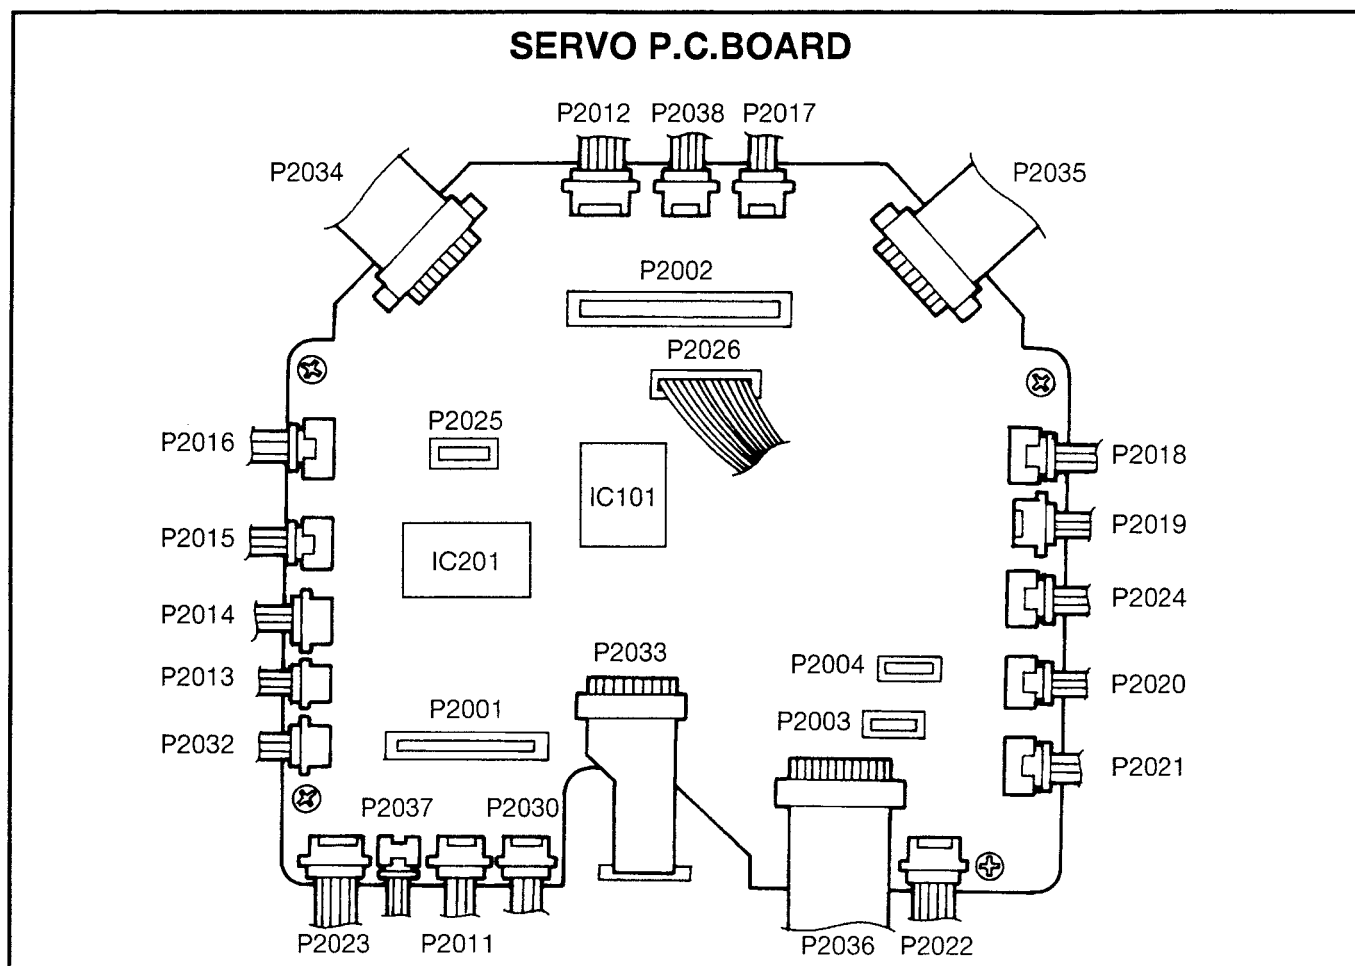
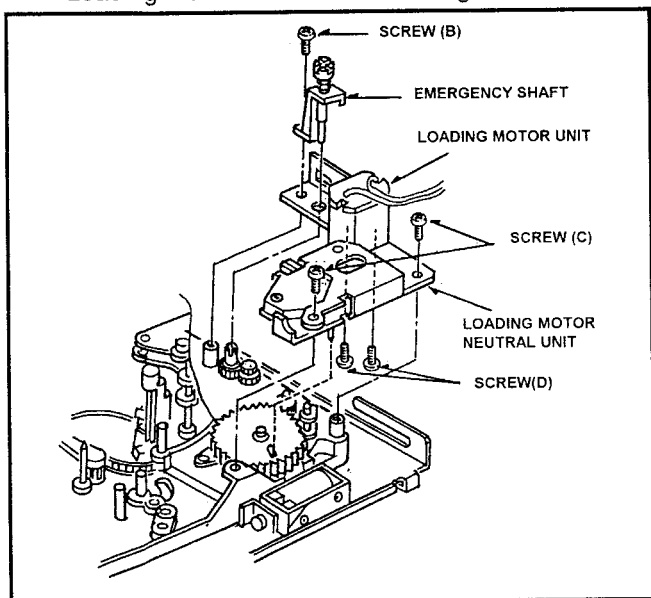
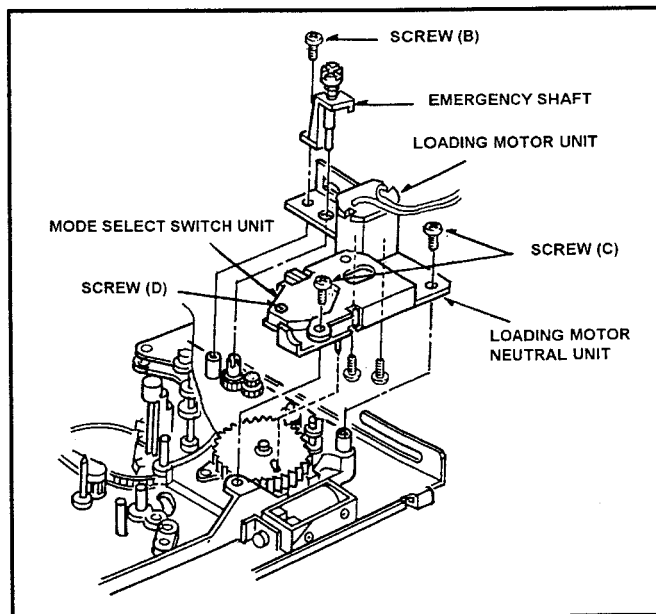

Fig. 6-3-1 Connection of Servo P.C.Board
Fig. 6-4-1 Removal of Loading Motor Unit
Fig. 6-7-1 Remove of Mode Select Switch Unit
5. Disconnect the connector P34 and P35 on the Servo P.C.Board as shown in Figure 6-3-1.
6. Move the S1 post to loading direction by manual ejecting method until the screw (C) can removing position.
9. Remove the 4 screws (C), (D) and (E) as shown in Figure 6-3-1.
5. Disconnect the connector P21 on Servo P.C.Board as shown in Figure 6-3-1.
6. Remove the Pinch Solenoid Unit (Refer to item 6-9).
7. Remove the Pinch Solenoid Lever. (Refer to item 6-5).
8. Unscrew the screw (B), and remove the Emergency Shaft as shown in Figure 6-4-1.
9. Unscrew the 2 screws (C) and remove the Loading Motor Neutral Unit as shown in Figure 6-4-1.
10. Unscrew the 2 screws (D) and remove the Loading Motor Unit as shown in Figure 6-4-1.
5. Disconnect the connector P20 on the Servo P.C.Board as shown in Figure 6-3-1.
5. Disconnect the connector P22 on the Servo P.C.Board as shown as Figure 6-3-1.
6. Remove the Pinch Solenoid Unit and Loading Motor Neutral Unit (Refer to item 6-4).
7. Remove the screw (D) and remove the Mode Select Switch Unit from Loading Motor Neutral Unit as shown in Figure 6-7-1.